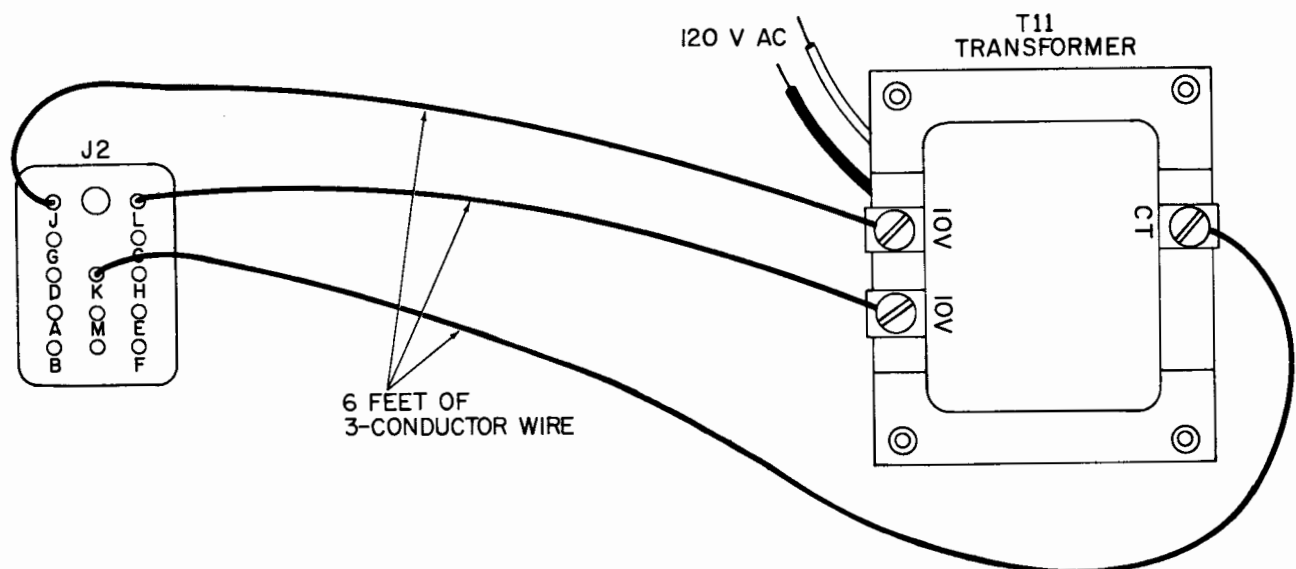

Fig. 2. Auxiliary power transformer assembly.
1. To apply power to unit for testing, an auxiliary power transformer assembly will be required. Fabricate the auxiliary power transformer assembly as shown in Fig. 2. This assembly can also be used in conjunction with an auxiliary speaker (45 ohm or less) to test output distribution and intercom functions of the unit.